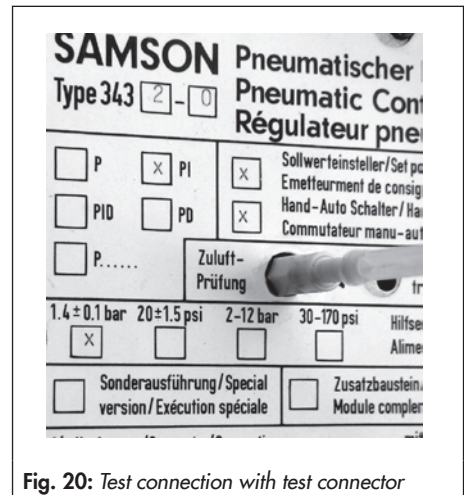

Fig. 20: Test connection with test connector
- Controller stations with manual/automatic switchover have a test connection (yellow) on the inside of the indicating unit. Use the enclosed test connector (Fig. 20).